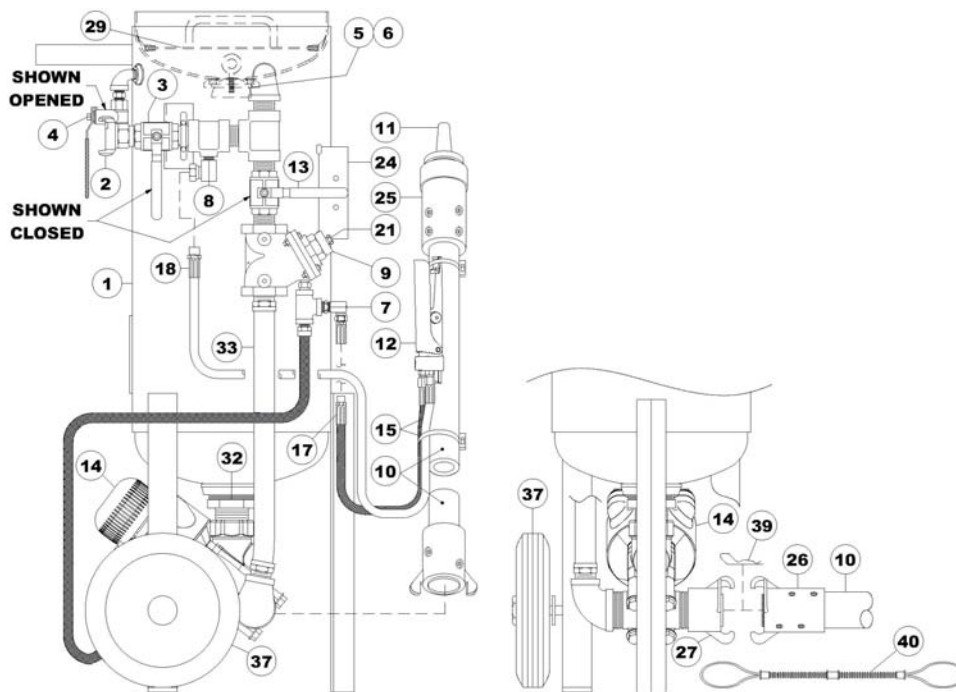

Figure 7.3 – Mini Abrasive Blaster with pneumatic blast controls
7.3 Ending the Blast Operation (See Figure 7.3)
- 7.3.1. Close the air inlet ball valve (#3). The ball valve is closed when the handle is fully turned to the position shown in Figure 7.3 (handle perpendicular to body). The handle tab will bottom against the ball valve body in the closed position.
- g) If the popup must be replaced it can be removed from the blast vessel through the abrasive outlet at the bottom of the vessel. Remove the Thompson Valve® II (#10) and the outlet bushing (#39). See Figure 7.3.